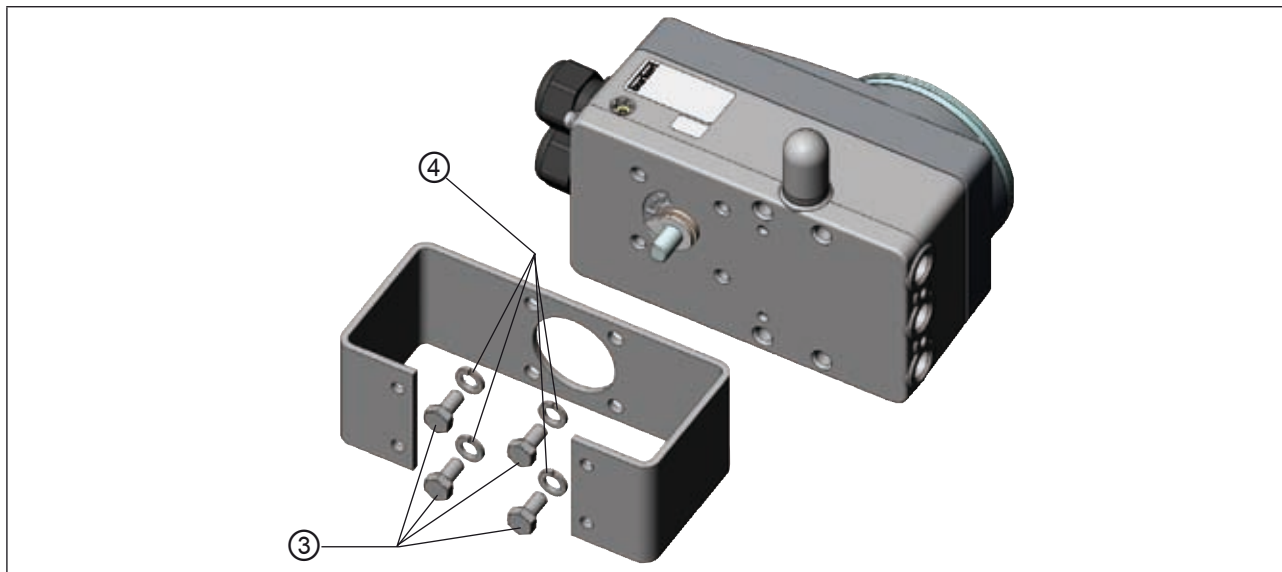

Fig. 20: Attaching mounting bracket
→ Place positioner on mounting bracket and attach with 4 cheese-head screws ③ and circlips ④ (see Fig. 20:).